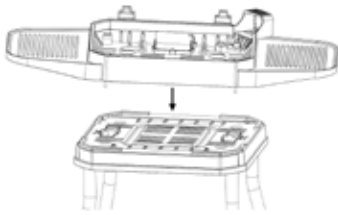

Fig. 5
8. Next, place the grill housing [9] on the grill base [11] and turn the two locks on the bottom anticlockwise. Grill housing and grill base are not interconnected (Figs. 5, 6, and 7).